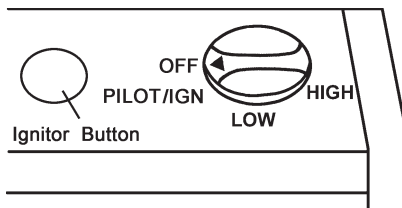

Figure 15 - Control Knob In The OFF Position (0696542 and 1096542)
3. Push in gas control knob slightly and turn clockwise ↻ to the OFF position (see Figures 15 & 16).
4. Wait five (5) minutes to clear out any air. Then smell for gas, including near the floor. If you smell gas, STOP! Follow "B" in the safety information on the side of the heater. If you do not smell gas, go to the next step.
5. Push in gas control knob slightly and turn counterclockwise ↻ to "PILOT/IGN" and depress for five (5) seconds